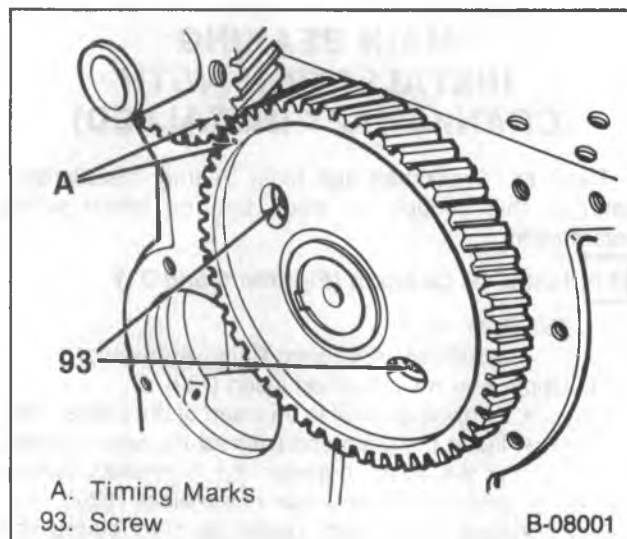

Figure 51—Timing Marks and Thrust Plate Screws
- 1. Camshaft (182) into the block (115). Take care not to damage the camshaft bearings (98 and 99).
- Align the timing marks (figure 51).
- 2. Screws (93).